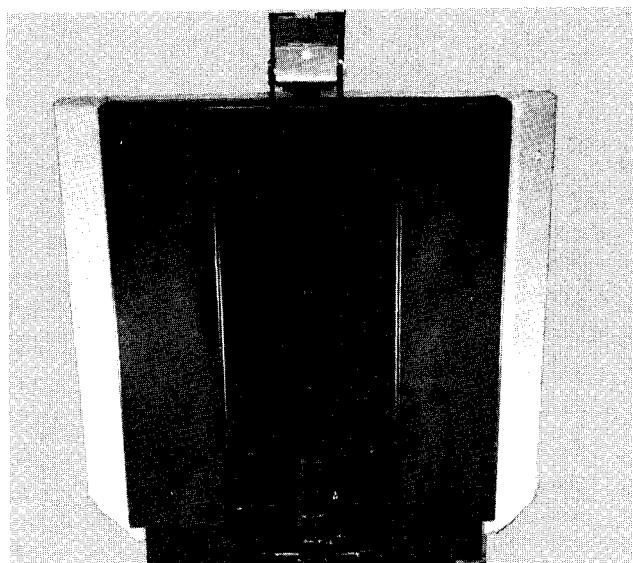

Fig. 7
- 1) Remove the metal panel from the metal back frame by removing (4) small screws. (Item A, Fig. 7.)